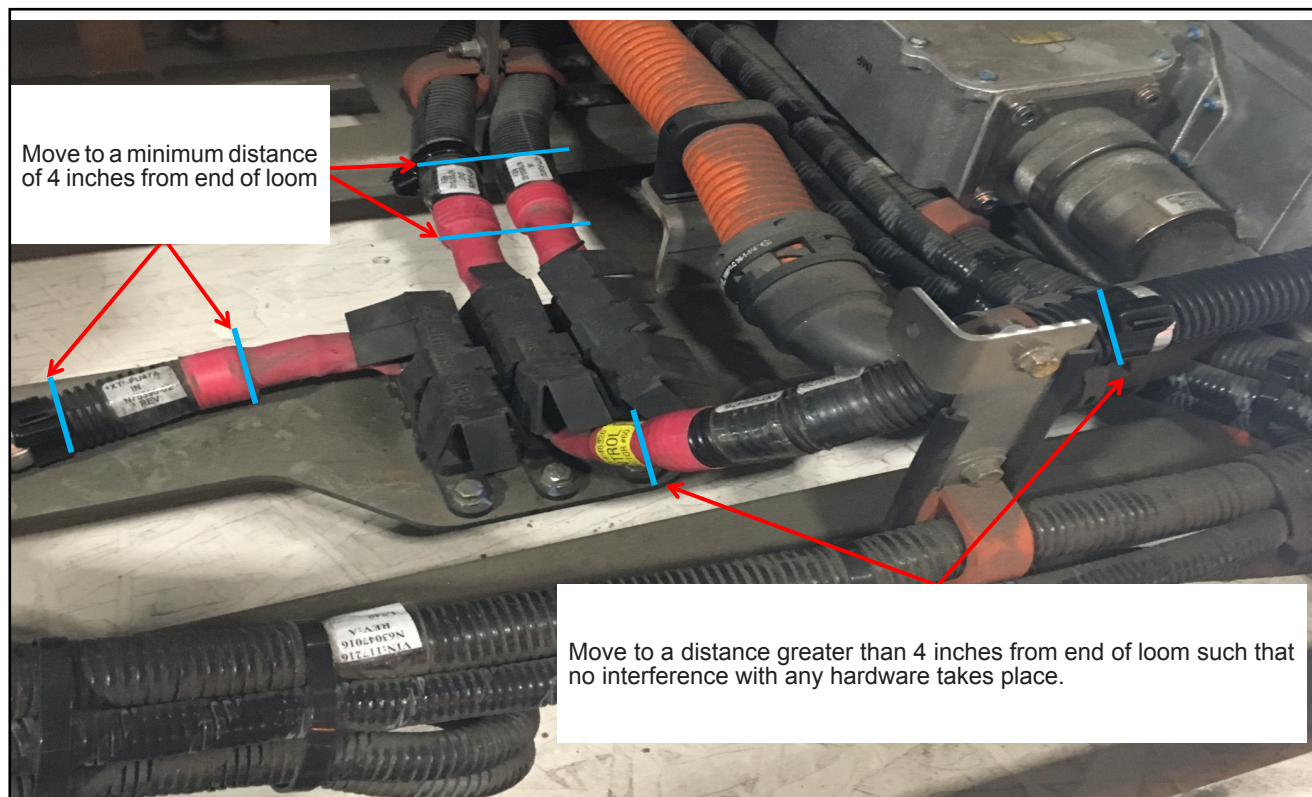

Figure 4 - Typical View of Cable Band Setup
- 1.5. Move cable marker band away from terminal at a minimum distance of 4 inches from end of loom (see Figure 4).